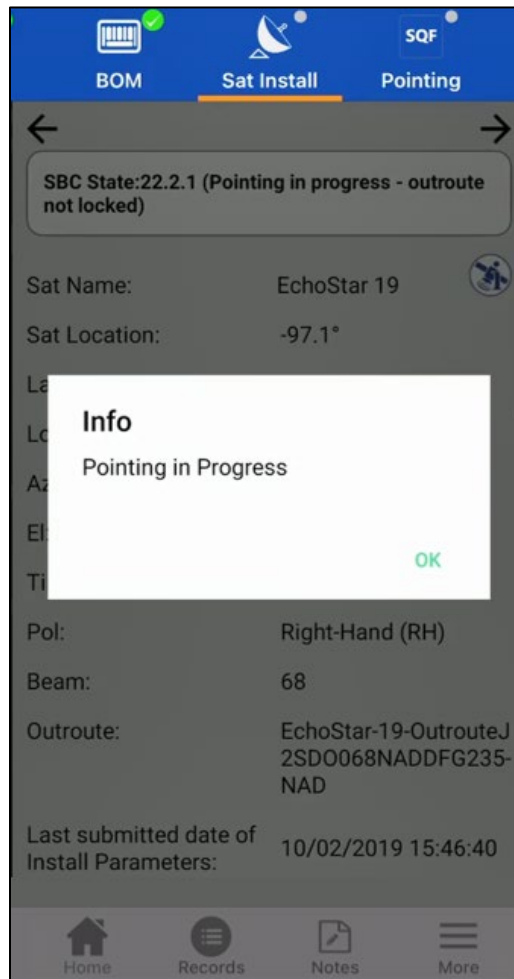

Figure 54: Pointing mode
2. Select the specific beam that matches the coordinates of the installation site. Check the Parameters textbox of the FSO (outlined in Figure 54) for these coordinates.